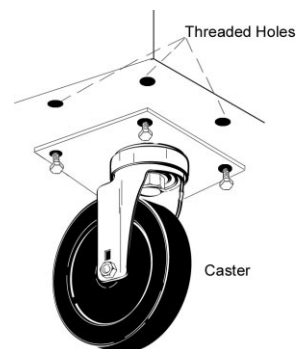

Figure 2
Please note that Traulsen Spacesaver units are not designed to be moved while on legs. If the unit requires moving, a pallet jack or forklift should be used to prevent damage. For installing casters, the casters are "plate" type, and require the use of four (4) bolts each to secure them firmly to the cabinet bottom at each corner (see figure 2). The caster bolts are tightened using a 1/2" socket wrench.